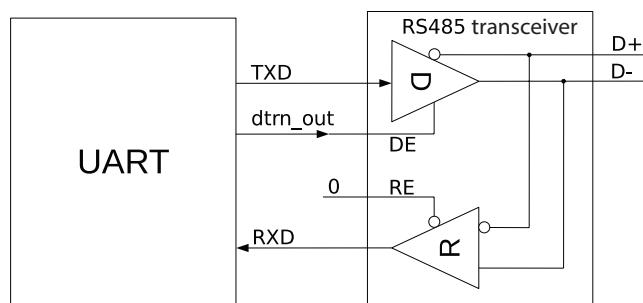

Figure 19-8. Driver Control Diagram in RS485 Mode
As shown in Figure 19-8, in a two-wire multidrop network, an external RS485 transceiver is needed for differential to single-ended conversion. An RS485 transceiver contains a driver (D) and a receiver (R). When a UART controller is not in transmitter mode, the connection to the differential line can be broken by disabling the driver (D). When DE is 1, the driver is enabled; when DE is 0, the driver is disabled.
DE can be controlled by either software or hardware. To reduce the cost of software, in our design, DE is controlled by hardware (can still be controlled by software). As shown in Figure 19-8, DE is connected to dtrn_out of UART (please refer to Section 19.4.9.1 for more details).
In a two-wire multidrop network, UART controllers support bus snooping if RE of the external RS485 transceiver is 0. By default, a UART controller is not allowed to transmit and receive data simultaneously. If `UART_RS485TX_RX_EN` is set and the external RS485 transceiver is configured as in Figure 19-8, a UART controller may receive data in transmitter mode and snoop the bus. If `UART_RS485RXBY_TX_EN` is set, a UART controller may transmit data in receiver mode.